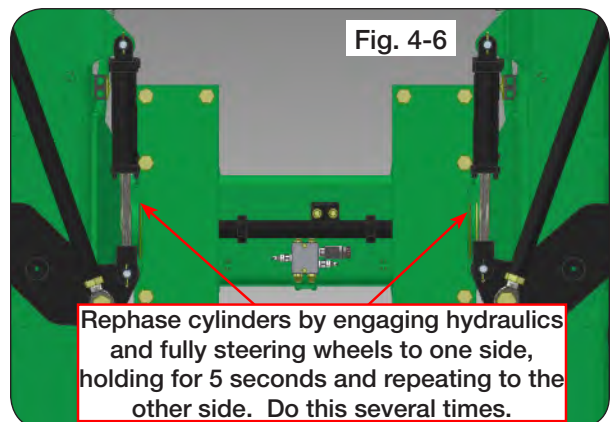

Fig. 4-6
6. If a cylinder does not fully extend after repeating steps 3 & 4, remove cotter pin and pin from the rod end of the steering cylinder. (Fig. 4-6)
9. Reattach the rod end of the cylinder to the steering turntable once the cylinders are rephased. (Fig. 4-6)